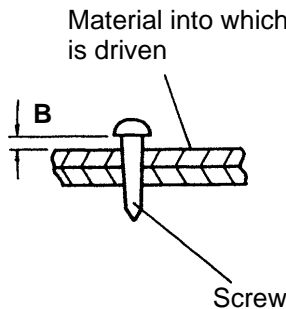
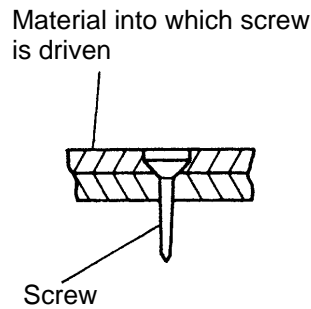
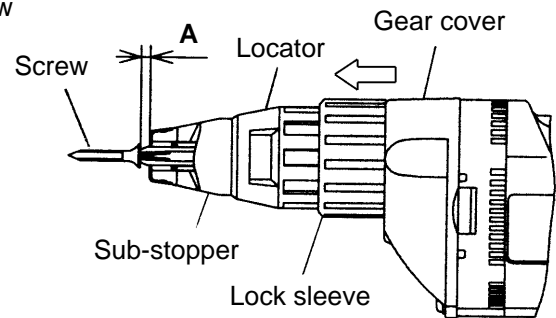

Fig. 1
Fig. 2
Fig. 3
(1) Head of screw protrudes above workpiece surface (Fig. 1)
If dimension A in Fig. 3 is excessively small, the head of the driven screw will protrude above the surface of the workpiece material as shown in Fig. 1. To adjust dimension A, pull the lock sleeve in the direction indicated by the arrow in Fig. 3 to disengage the lock sleeve from the gear cover spline, and rotate the lock sleeve clockwise as viewed from the screw mounting end (see Note below). Repeat adjustment as necessary until the head of the driven screw is properly aligned with the surface of the workpiece.
(2) Head of screw sinks below workpiece (Fig. 2)
If dimension A in Fig. 3 is excessively large, the head of the driven screw will sink below the surface of the workpiece as shown in Fig. 2. To perform adjustment, follow the procedures described in item (1) above, but rotate the lock sleeve counter-clockwise.
(NOTE) By turning the lock sleeve clockwise or counter-clockwise, dimension A in Fig. 3 can be adjusted within a maximum dimension of 1.5 mm (0.059"). One complete rotation of the lock sleeve is divided into ten settings, each setting permitting an adjustment of 0.15 mm (0.006"). Accordingly, if dimension B in Fig. 1 is 0.3 mm (0.012"), rotate the lock sleeve by two settings.